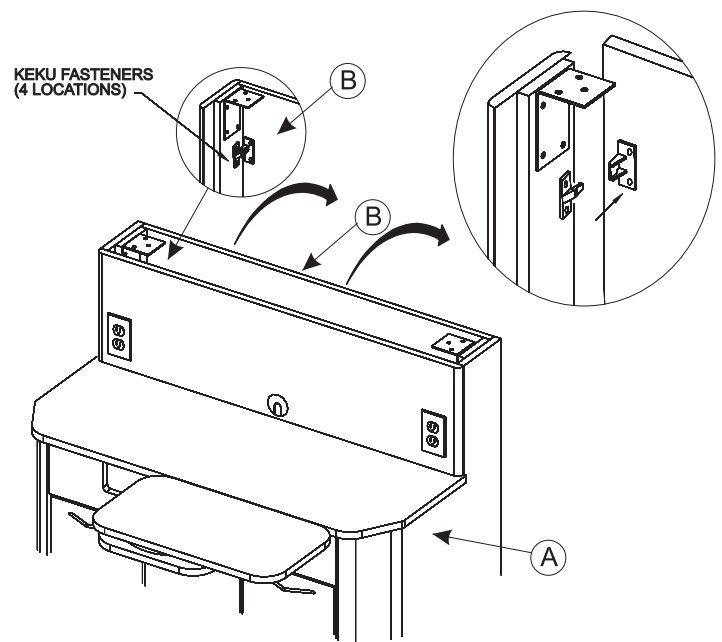

Figure 1A
Remove the Back Panel (B) from the Lower Cabinet (A) sides (see Figure 1A) by pulling the top of the Back Panel from the rear of the cabinet to release the upper Keku Latches and continuing pulling back to release the lower Keku Latches (4 locations).